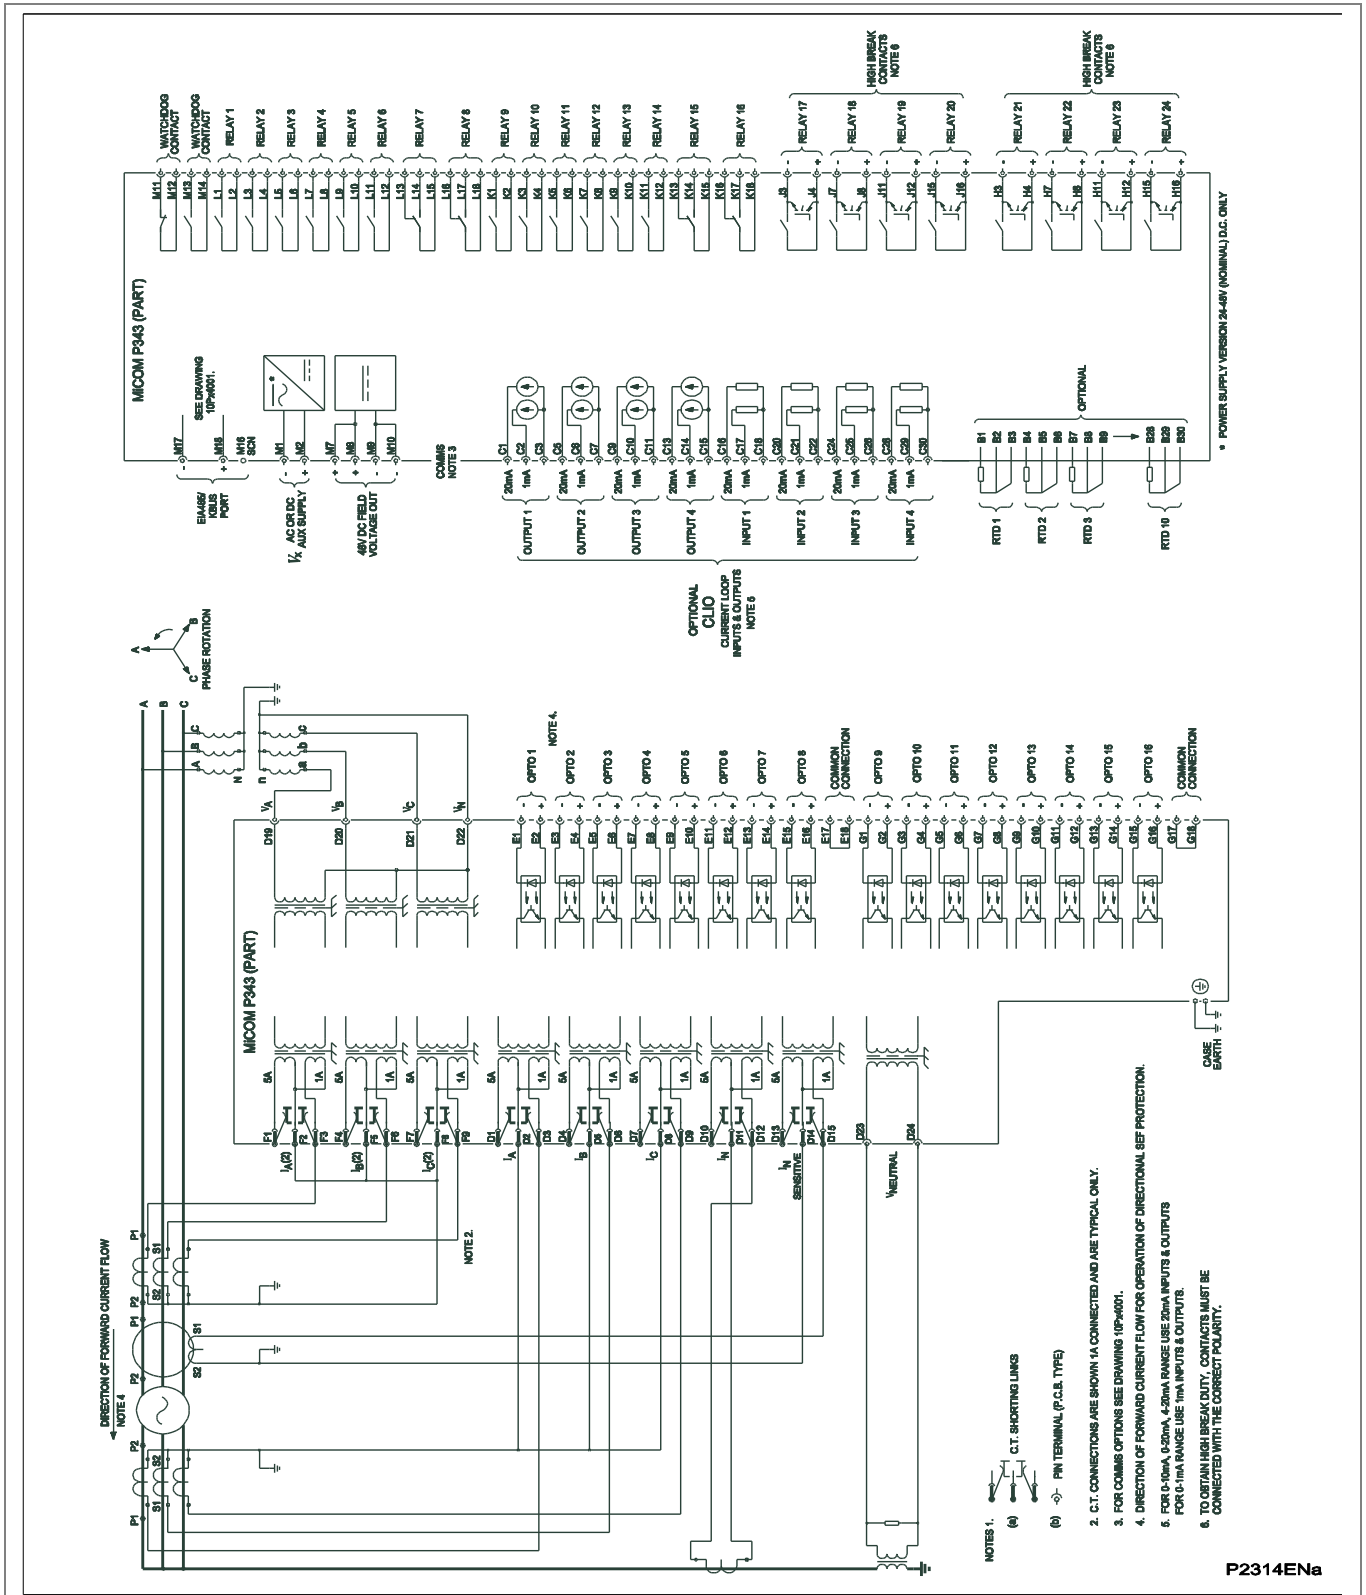

Figure 39 - P343 (80TE) with biased differential (16 I/P & 24 O/P (8 HB) & RTD's & CLIO)
- Figure 39 - P343 (80TE) with biased differential (16 I/P & 24 O/P (8 HB) & RTD's & CLIO)